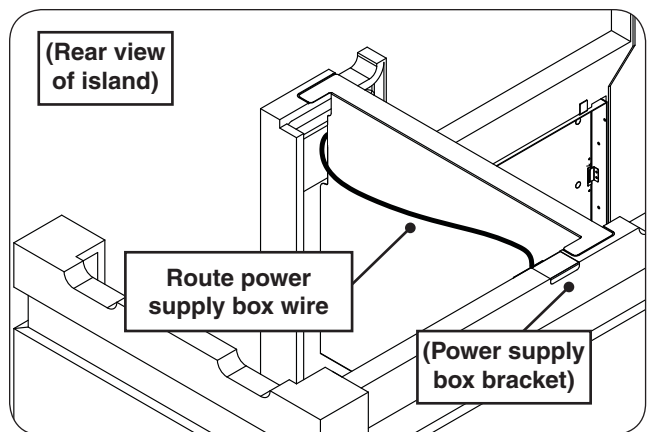

Fig. 13-3 Route power supply box wire
3. Once the box is installed, route the box wire along the heat shield and into the grill area (for future grill installation). See Fig 13-3.